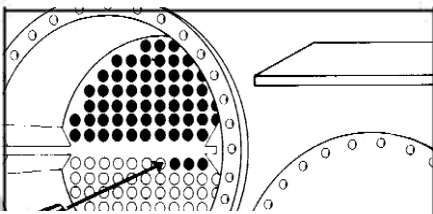

Figure 1
1. Drill holes, 1/8" larger than crack at each end, or multiple holes if crack is over 5 inches long, to relieve further cracking (**Figure 1**).